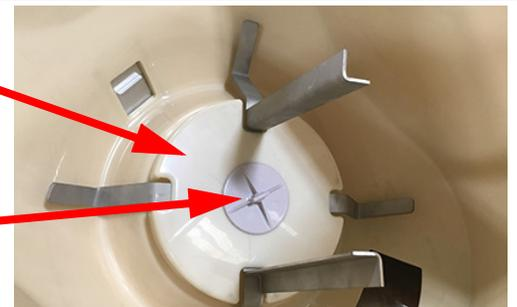

Figure 8
- With the agitator seated properly, place the agitator cover over the agitator and secure it with the agitator retaining screw. Make sure that the agitator retaining screw is tight as shown in Figure 8.